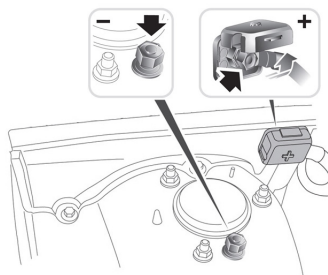

Figure 3.3.2
**WARNING:** DO NOT TEST THROUGH THE JUMPSTART POSTS. For models that hold the battery under the seat or in the trunk, the manufacturer usually includes jumpstart connector conductor posts under the hood (See Figure 3.3.2) to make jumpstarting easier. However, to ensure data accuracy and operation safety, DO NOT CONNECT THE BATTERY TESTER TO THE JUMPSTART POSTS.